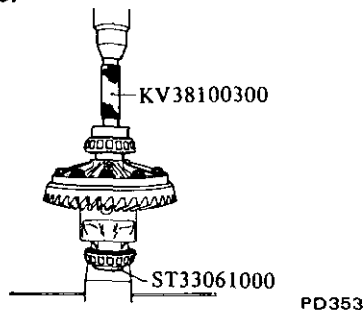

Fig. PD-20 Installing side bearing inner race
9. Press fit side bearing inner race on differential case with Gear Carrier Side Bearing Drift KV38100300 and Adapter ST33061000. See Figure PD-20.